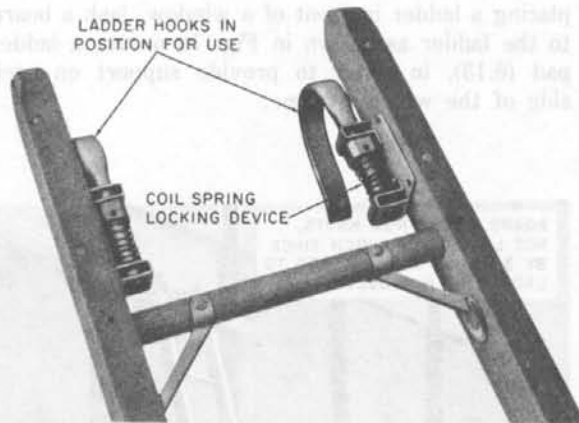

Fig. 11—Ladder Hooks
6.10 The *ladder hooks* provided on C and D Extension Ladders are shown in Fig. 11.